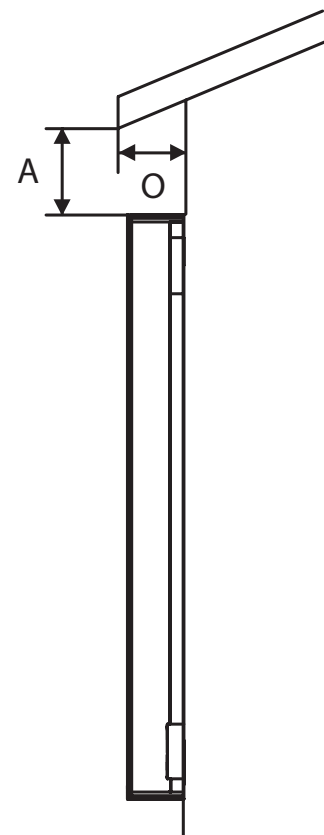

Figure 4. Overhang clearances.
When mounting on the wall, ensure to provide sufficient room from the ground to prevent snow from building up in front of the collector. Base the height on prior winter snow falls. If this is your first winter at this home or if you are unsure, mount the collector a minimum of 24" above the ground. If needed, remove any build up of snow that may block the front of the collector, which will prevent the absorber and photovoltaic panel from receiving sunlight. Also, ensure that you have sufficient clearance from the overhang of the roof. This will help prevent any shadows from the overhang that may affect the performance of the collector. Measure out the amount of overhang from the outside wall (O). The distance A in Figure 4, should be greater than the measured distance O.